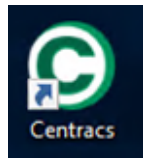

Figure 7: The Microsoft Windows shortcut for Centraccs.
1. If Centraccs is installed on a computer, the Centraccs logo, shown in Figure 7, should appear on the desktop. Double-click the Centraccs logo to launch the application.